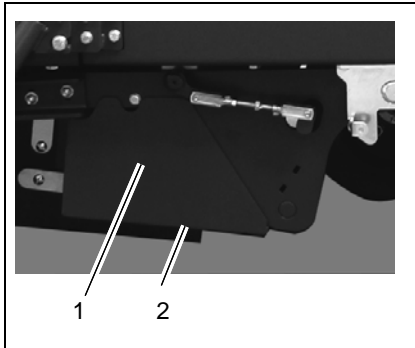

Fig. 41
The cover (Fig. 41/1) of the belt is fixed by two screws (Fig. 41/2).
1. Remove the screws (Fig. 41/2).
Remove the belt cover (Fig. 41/1).
4. Assemble the belt cover (Fig. 41/1) and fix with the screws (Fig. 41/2).